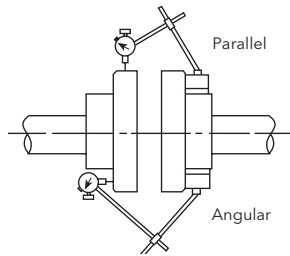

Figure 6
- After completion of the frame mounted unit baseplate installation, the motor and pump shaft alignment **MUST** be checked, see Figure 6, and the coupling spacer must be reinstalled.